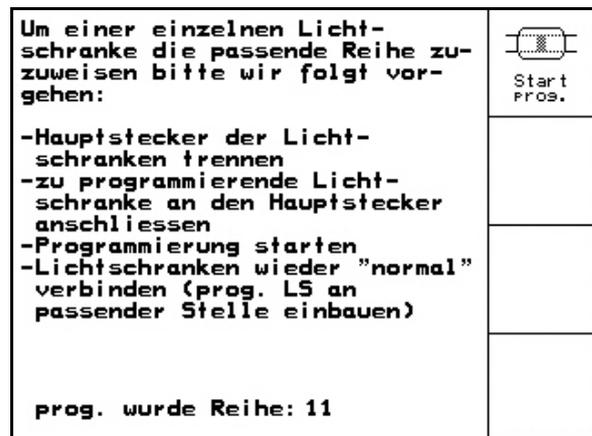

Fig. 79
6. The programmed light barrier is indicated in the respective row (Fig. 79).